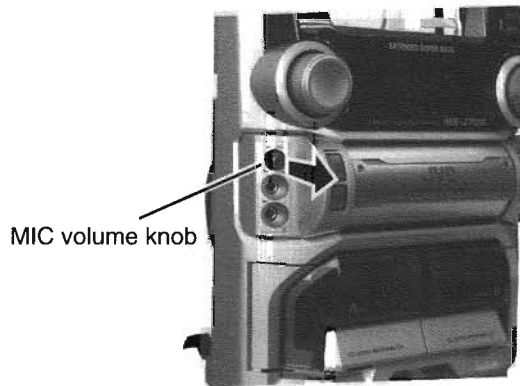

Fig.10
■ **Removing the Microphone terminal board assembly (See Fig.10 and 11)**